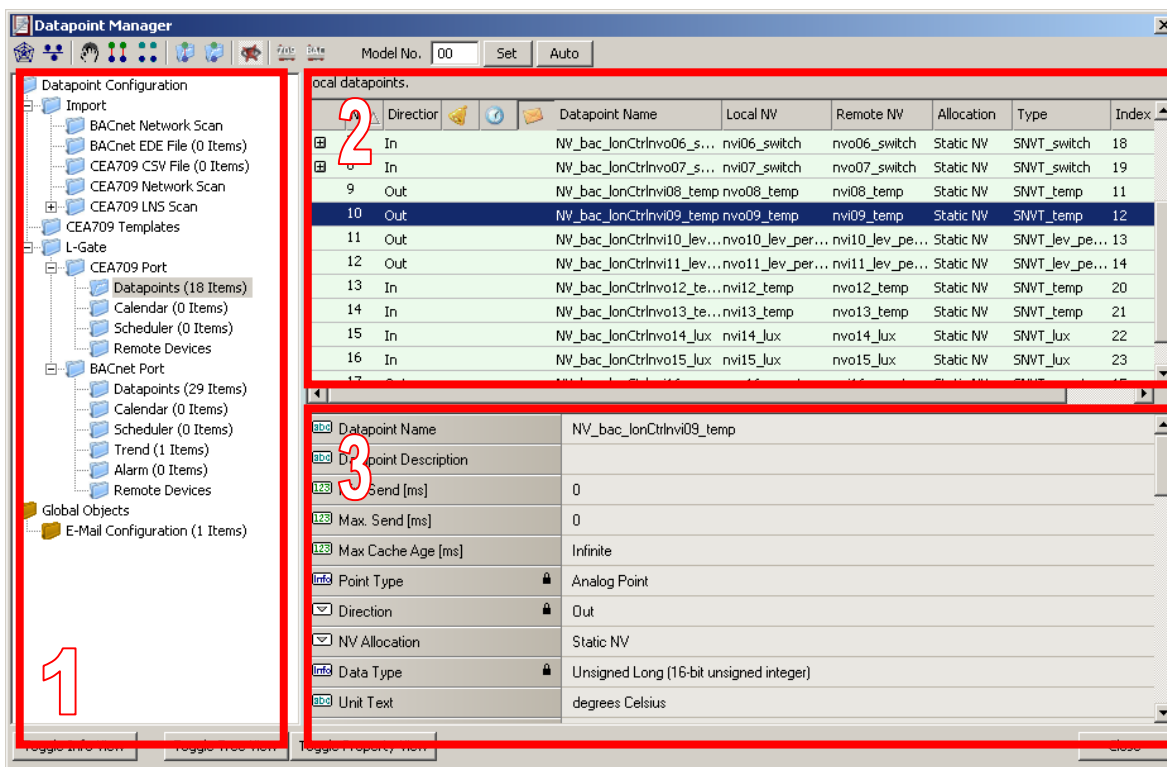

Figure 64: Datapoint Manager Dialog
The configuration software uses a central concept to manage data points. The data point manager as shown in Figure 64 is used to select, create, edit and delete data points. The dialog is divided into three sections:
- The folder list (number 1 in Figure 64),
- The data point list (number 2 in Figure 64),
- And a property view (number 3 in Figure 64).